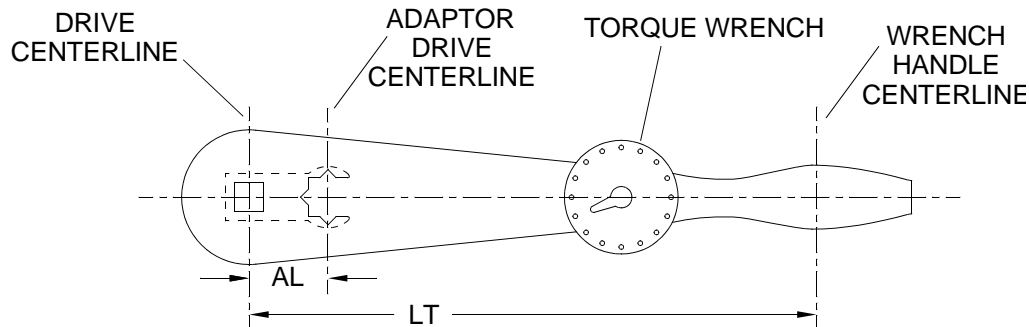

Figure 1. Adaptor Decreases Distance
1. If the adaptor used decreases the distance between the center of the torque wrench handle and the center of the drive (figure 1), first find the desired torque for the fitting, then calculate as follows: